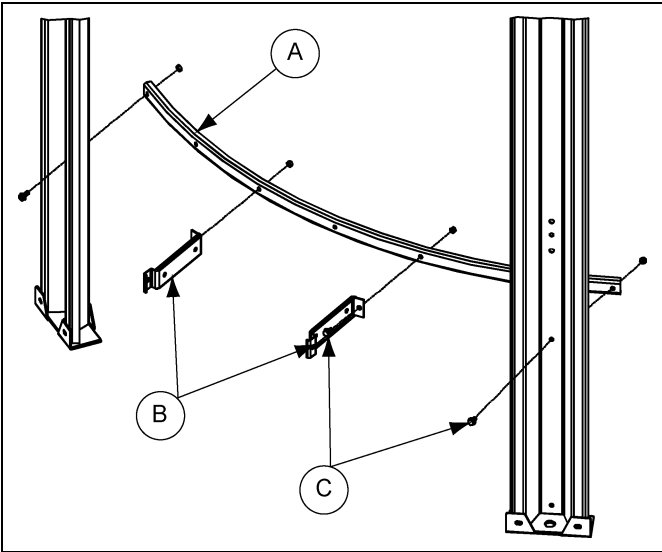

Figure 8I
1. The ladder must be secured to the leg assembly with standoff brackets using support channels as shown in Figure 8I.